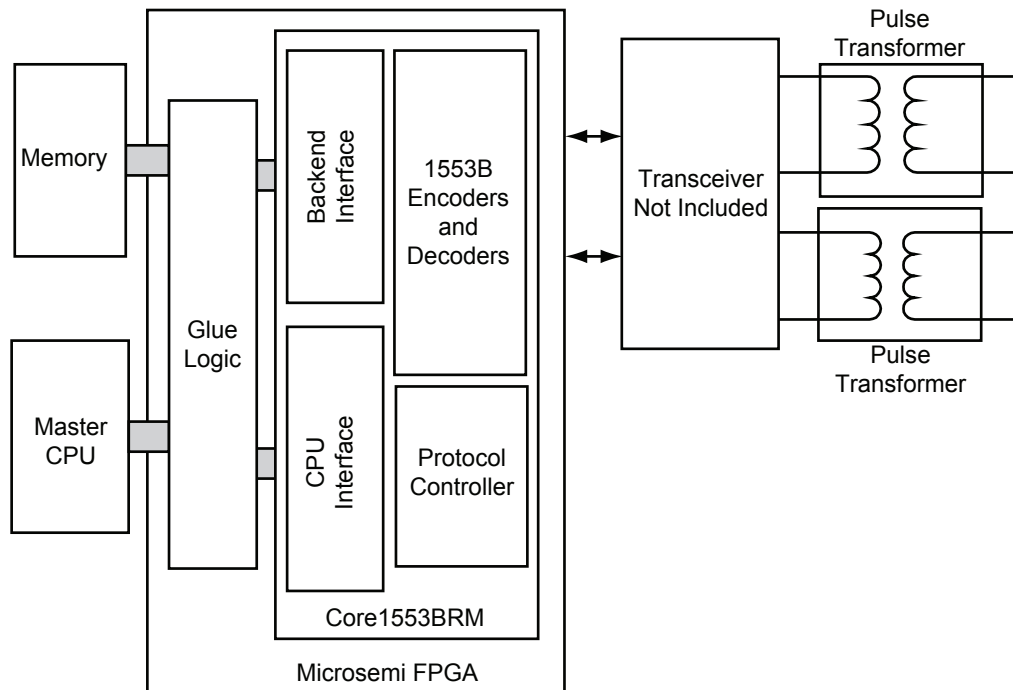

Figure 1 • Typical Core1553BRM Application
Microsemi® Core1553BRM provides a complete MIL-STD-1553B bus controller (BC), remote terminal (RT), or bus monitor terminal (BM or MT). Core1553BRM can be configured to provide all three 1553 functions or any combination thereof. The core is supported in all recent Microsemi Flash, antifuse, and radiation-tolerant product families. A typical system implementation using Core1553BRM is shown in Figure 1.